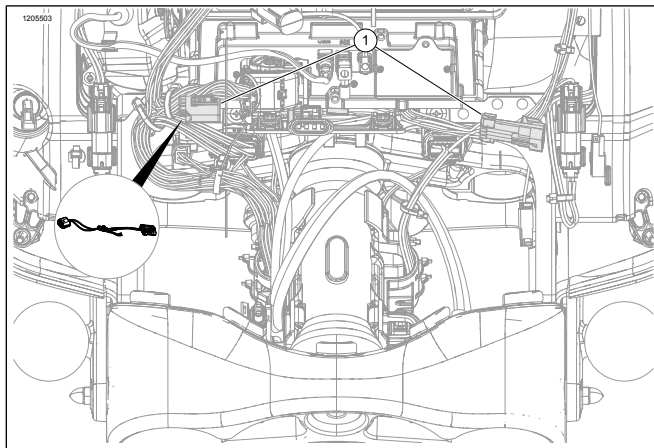

Figure 3. Removal of Dual Halogen Harness Adapter
3. See Figure 3. If equipped, remove headlamp's dual halogen jumper.